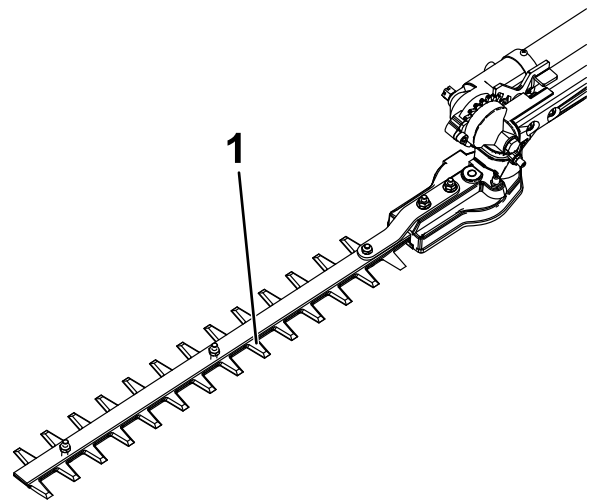

Figure 12
3. Apply light weight machine oil (such as #10) along the edge of the top blades (Figure 12).